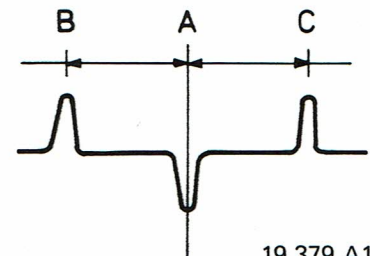

Fig. 5.2
- An oscillogram as shown in Fig. 5.2. is now obtained.